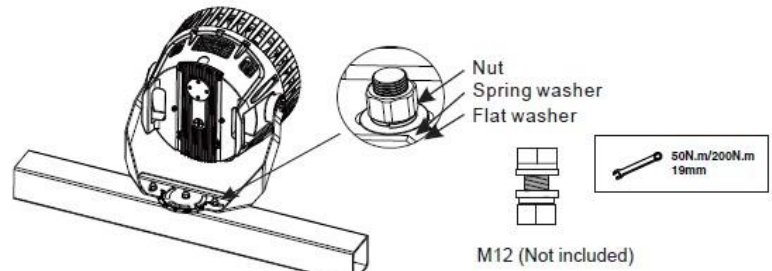

Figure 3
3. Use (3) M12 nut sets of bolts and washers to fasten the fixture in place (Figure 3).